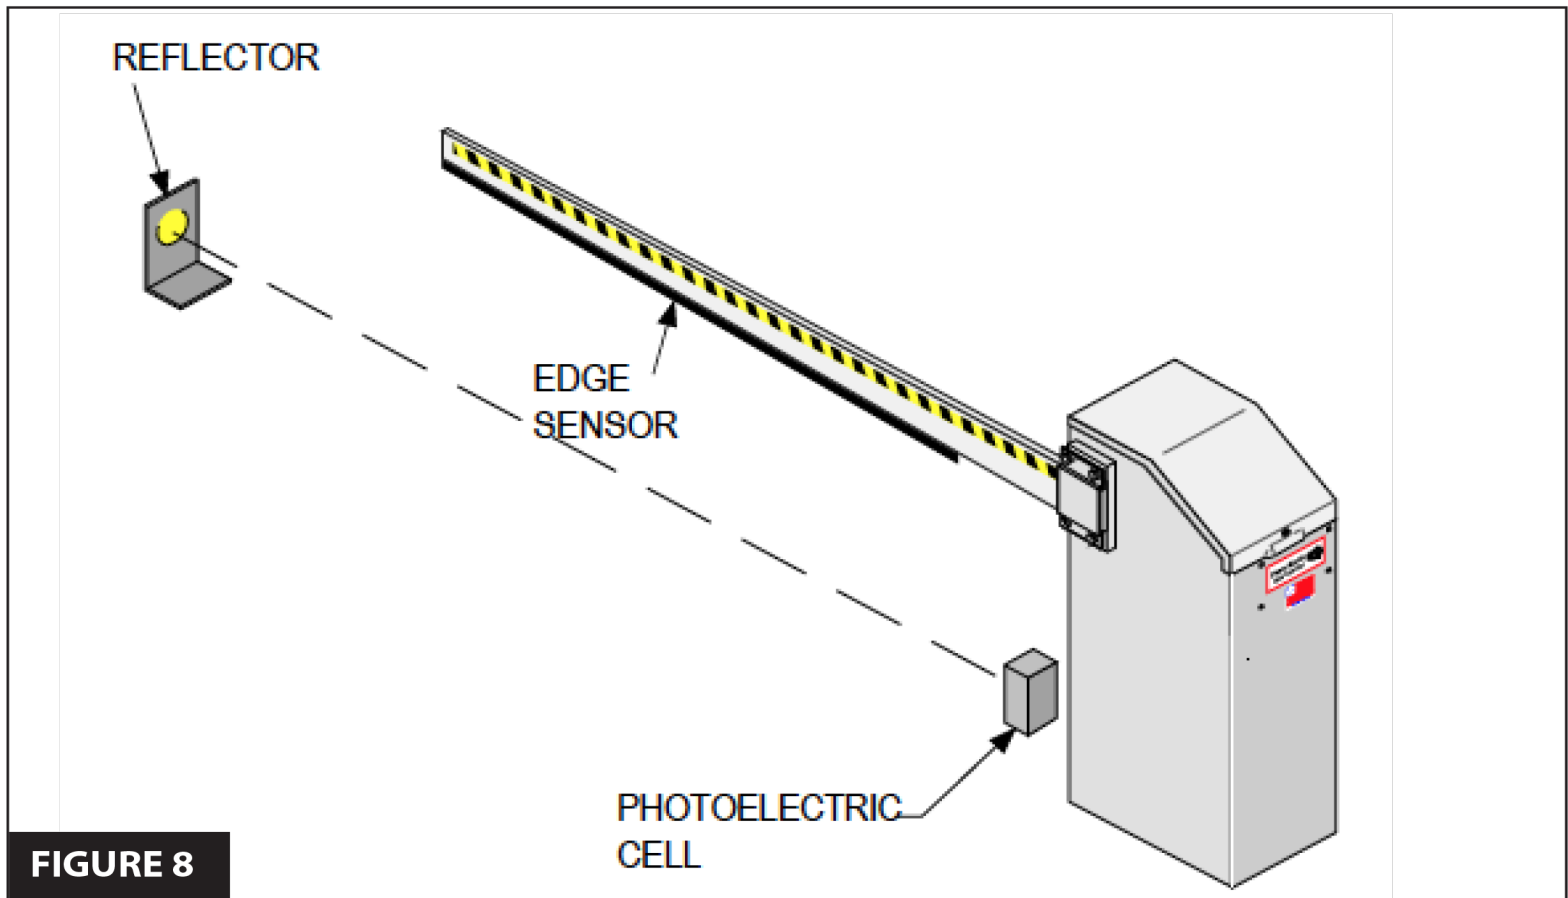

FIGURE 8
1. Install edge sensor or photoelectric eye system as shown in Figure 8. Photocells should be installed at least 10" above the ground.